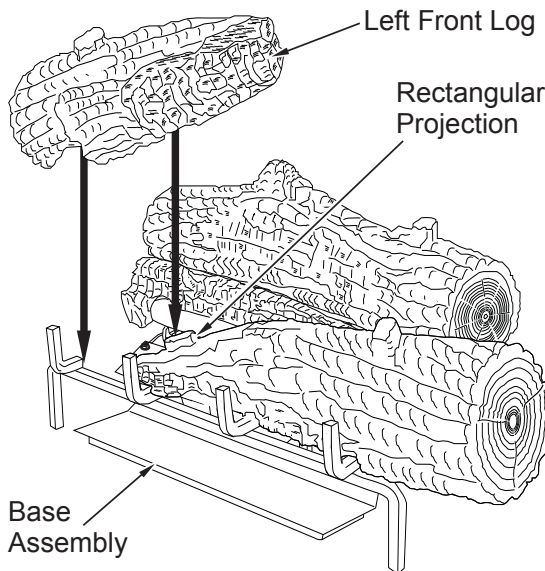

Figure 53 - Installing Left Front Log
4. Place the left front log onto the base and the right front log as shown in **Figure 53**. The left front log has a notch on the bottom that will line up with the projection on the right front log.